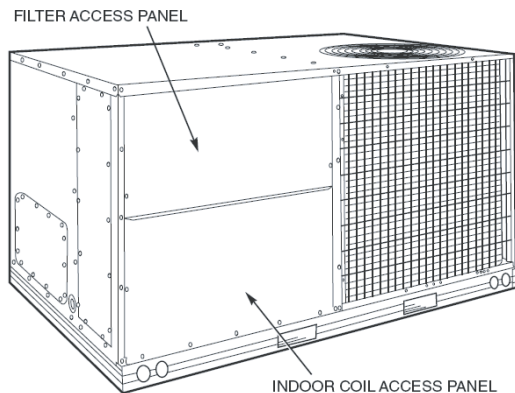

Fig. 1 - Rooftop Unit Panels
3. Remove filter access panel by raising panel and swinging panel outward. Panel is now disengaged from track and can be removed. No tools are required to remove filter access panel. Remove the outdoor-air opening/indoor coil access panel. (See Fig. 1.)